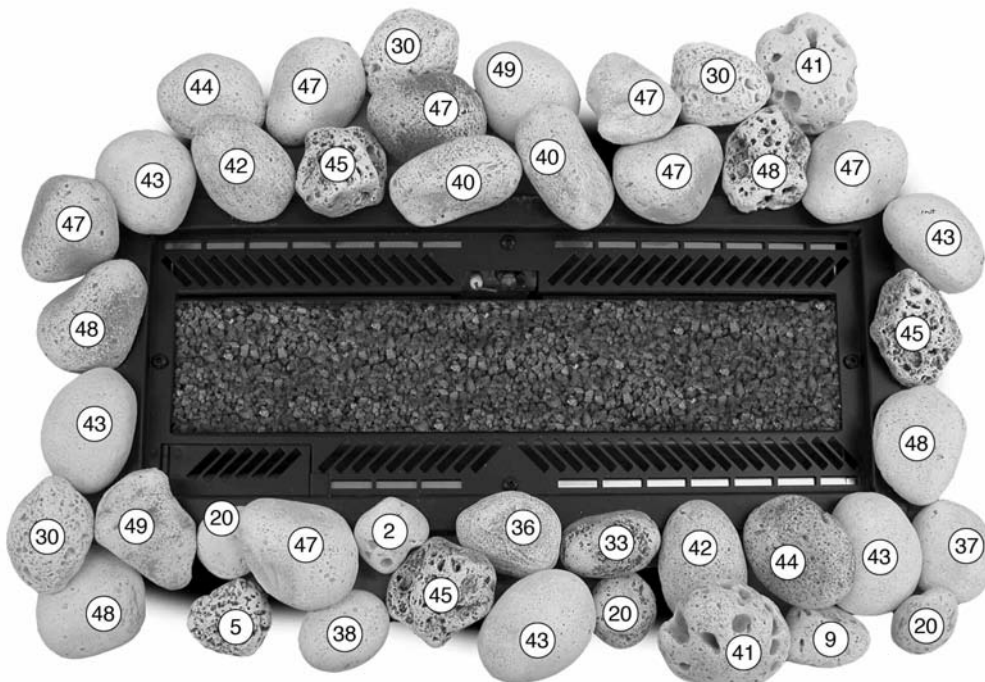

Fig. 36
3. Position the pebbles around the burner, ensuring that none come into contact with the pilot (Fig. 36).